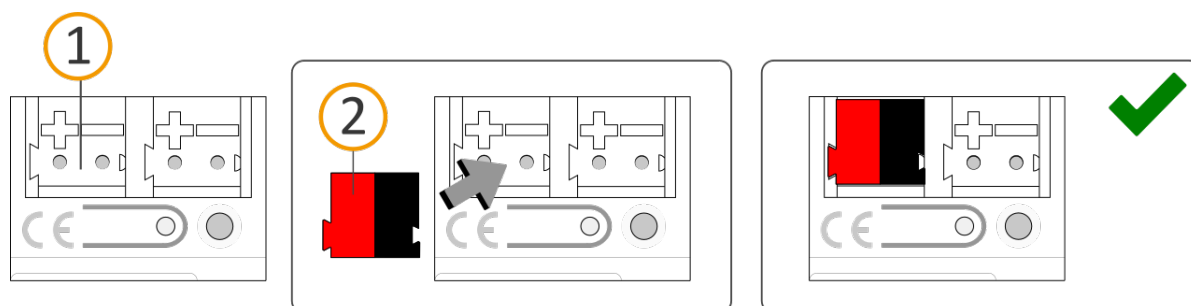

Figure 8: Connect the bus line
2. Connect the KNX/TP bus line (referred to below as the bus line) to the KNX connection of the device (see figure 8 item 1) by means of the supplied bus connection terminal (see figure 8 item 2). Polarity: left/red: "+", right/black "-":
- a. Attach the bus connection terminal (see figure 8, item 2).